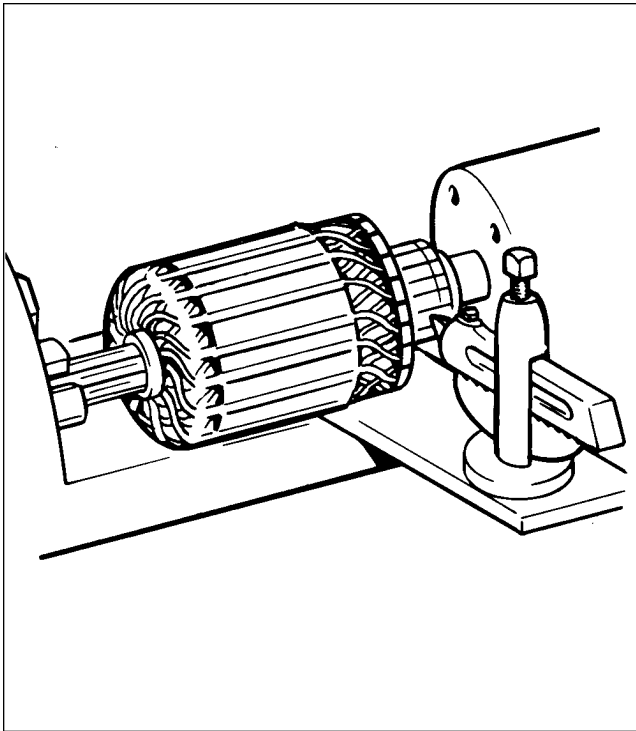

Figure 80-2. Turning Starting Motor Commutator
1. Check the commutator for uneven wear, excessive glazing or evidence of excessive arcing. If only slightly dirty, glazed or discolored, the commutator can be cleaned with 00 or 000 sandpaper. If the commutator is rough or worn, it should be turned in a lathe. (Refer to Figure 80-2.) The armature shaft should be inspected for rough bearing surfaces and rough or damaged splines.